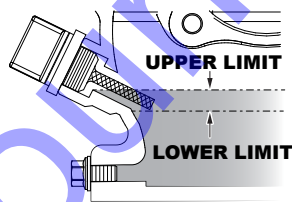

Figure 4. Engine Oil Dipstick (Oil Level)
4. If the oil level is low (Figure 4), fill to the edge of the oil filler hole with the recommended oil type as listed in Table 5. Refer to Table 2 for maximum engine oil capacity.